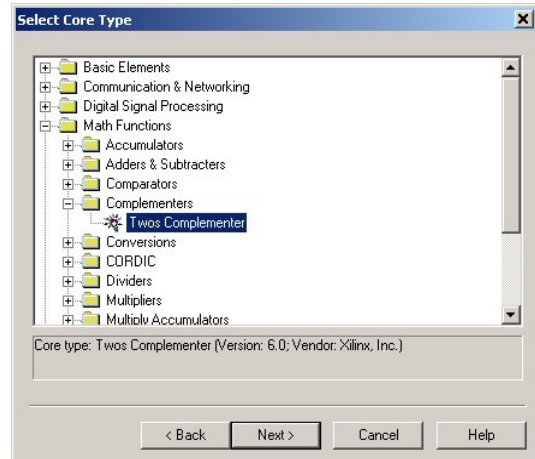

Figure 3: Select Core Type
2. Expand **Math Functions**, **Complementers**. Click **Twos Complementer**. Click **Next**. Click **Finish**. Refer to figure 3.